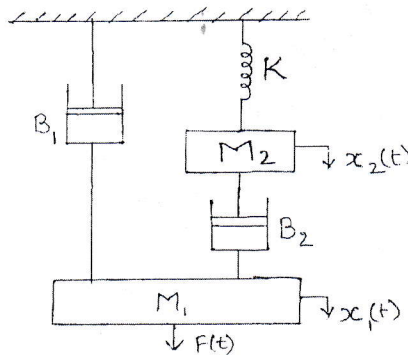

Fig. Q3 (a)
- 3 a. Obtain the transfer function of the mechanical system shown in Fig. Q3 (a). (10 Marks)